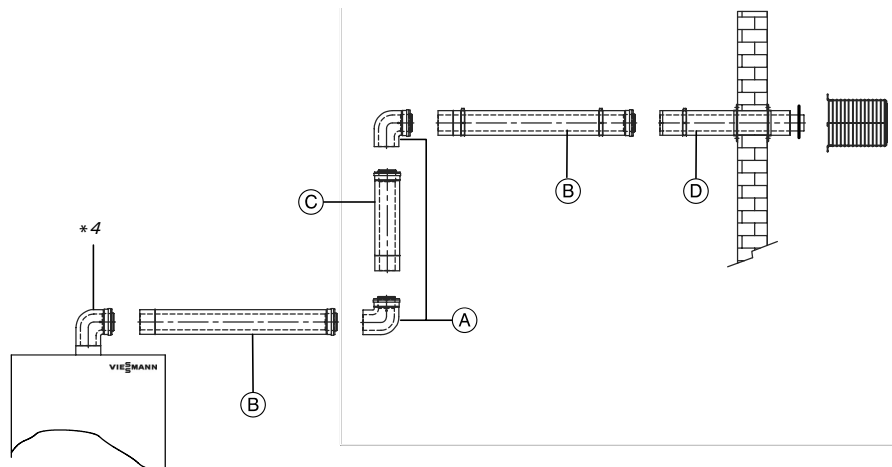

Fig. 14 Equivalent vent length calculation
- For maximum equivalent vent length on all models see tables 8. and 10., and Figs. 14 (left) and 15 on the following pages.